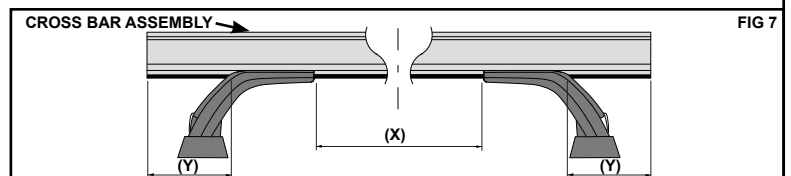

FIG 7
- Secure the Cross Bar to the End Support by screwing the Hex Bolt through the hole in the End Support and up into the Nut that is located in the cavity of the Commercial Slug (Fig. 7).
6. Insert Cut Length (A) into the gap between the End Supports ensuring there are no air gaps.
7. After locking down the End Supports in position, proceed to insert the remaining Undercover Strip into the Cross Bar, filling the remaining gap shown by dimension (Y) in Figure 7. Trim the Undercover Strips back to align with the edge of the Cross Bar for all four 'Cut Length (B)' strips.